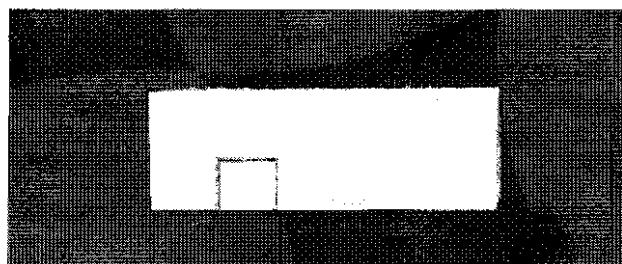

Figure 16 Mark the position of your groove or dado
4. Using a square, mark the position of your groove or dado on the edge or end of your workpiece where the router bit will enter. See Fig. 16.